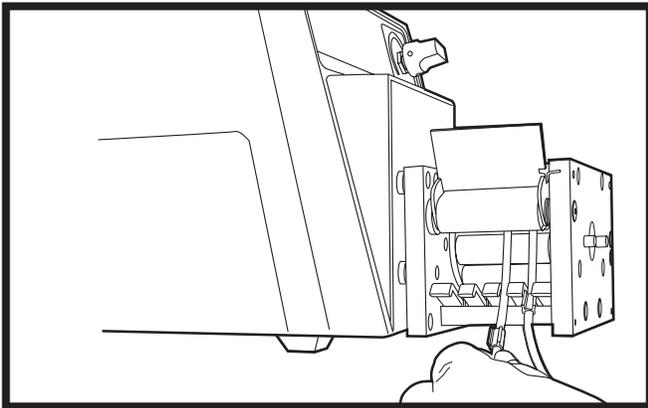

Figure 7, Place tubing stop collar into slot to secure.
3. Place tubing stop collar into slot to secure (Figure 7).